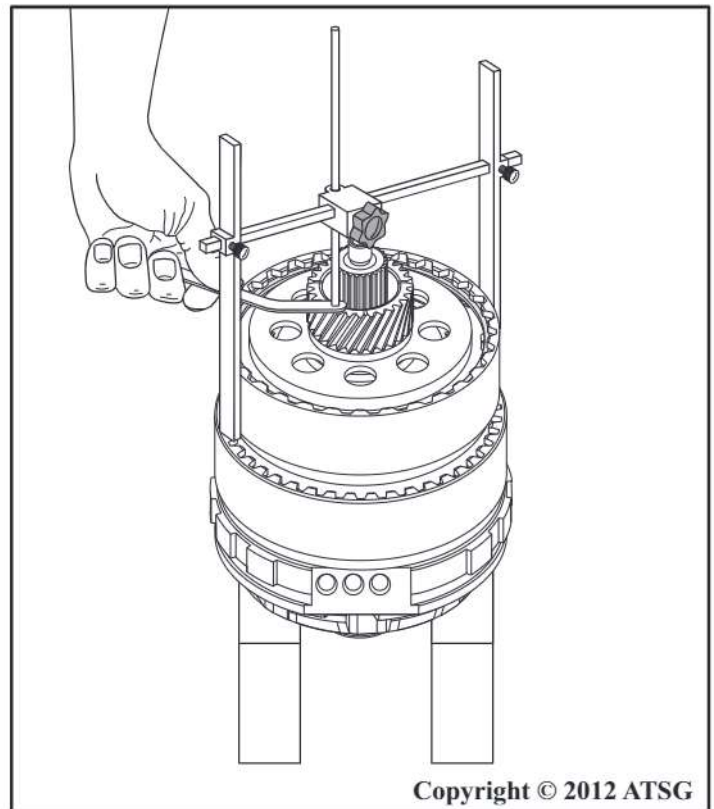

Figure 231
5. Remove the "H" gage from case, turn it over and place on pre-assembled compounder assembly as shown in Figure 231.
6. Measure with feeler gauge between output sun gear and the adjustment rod, as shown in Figure 231.